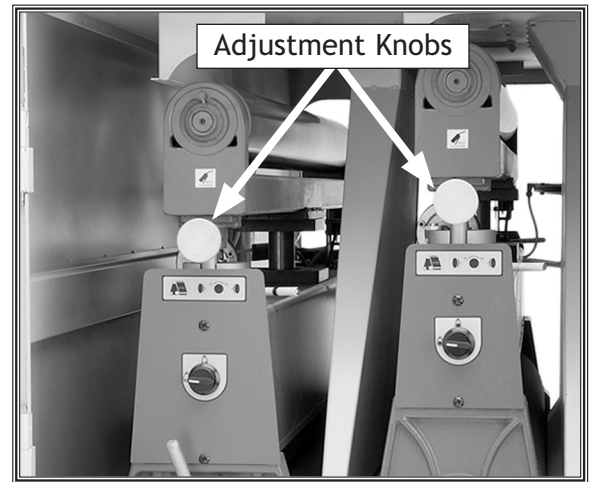

Figure 37. Oscillation adjustment knobs.
- If the oscillation time to the **right** is 2 seconds, but the oscillation time to the **left** is longer, loosen the oscillation adjustment knob (**Figure 37**) and move it to the **left** (counterclockwise) until proper tracking is achieved. Tighten down the oscillation adjustment knob when satisfied.